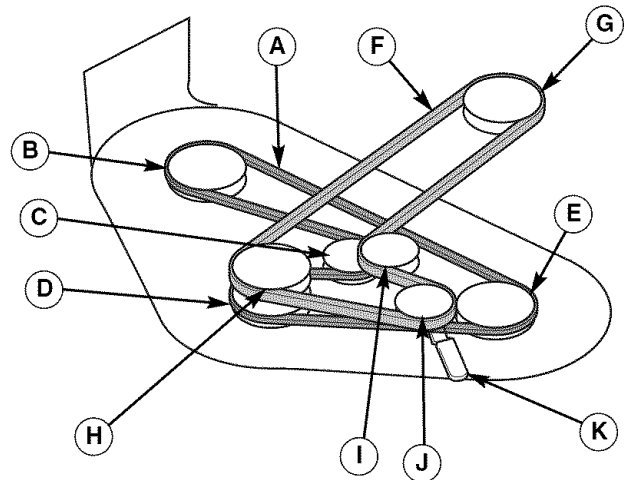

Figure 38. PTO Belt Routing
2. Use the idler pulley arm (K, Figure 38) to release belt tension and remove the mower drive belt (F) from the PTO pulley (G).
4. Install the new belt (F) as shown in Figure 38.
Contact a Sears Parts & Repair Center for replacement of the arbor drive belt (A, Figure 38).